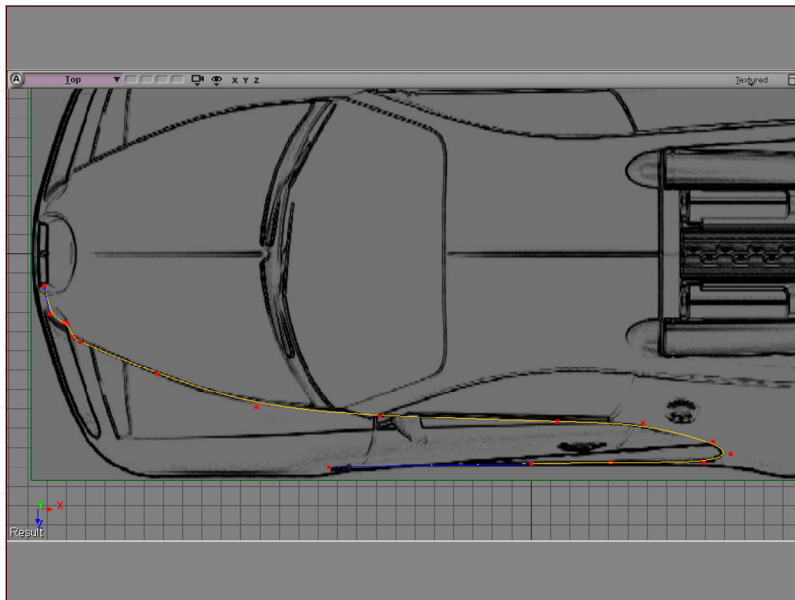

Fig 05
5. To make the modelling easier, we should draw the main line of the car with curves. For this, use Draw Cubic by CVs tool (Model Module > Create > Curve) and draw the lines from point to point in the Top view (**Fig05**). If need be, you can add more points to your line with the Add-Point Tool by CVs tool (Model Module > Modify > Curve), and if you don't need a point just select it and press Delete to delete it, or move it with the Translate Tool to its correct position.